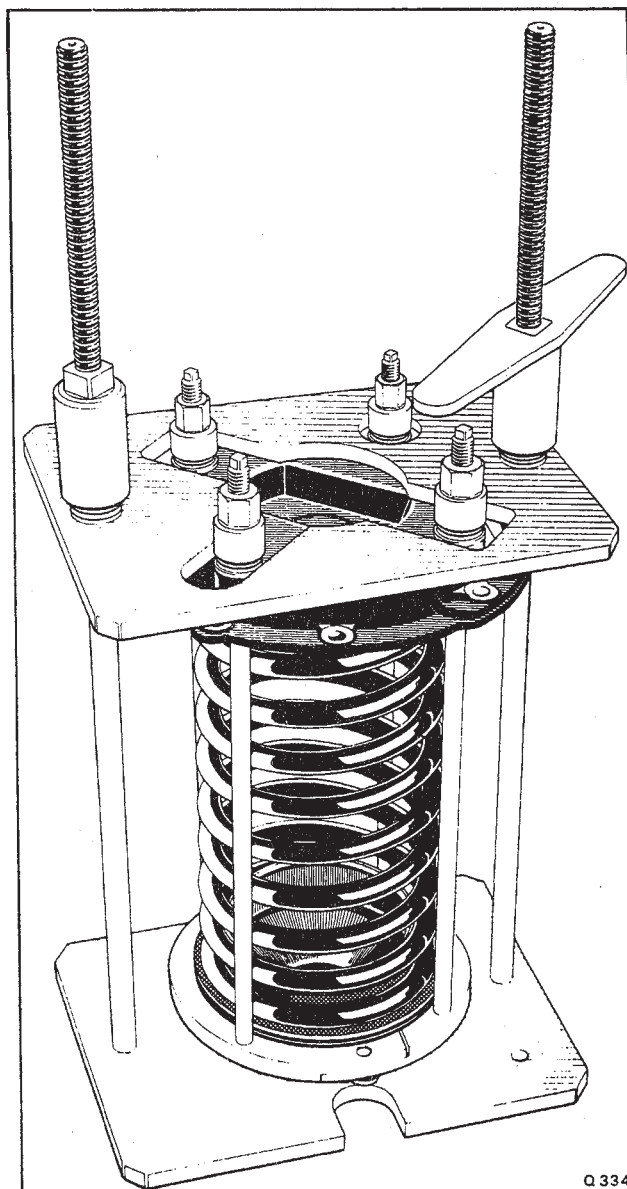

Fig. H10 Spring compression tool
4. Place the road spring and its associated components (see Fig. H10) into spring compression tool (RH 7909). Compress the spring to the measurement taken on removal.